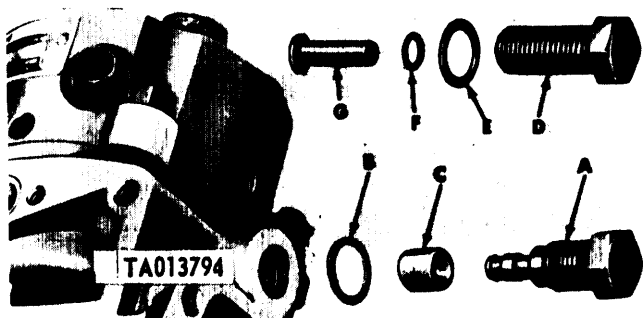

Figure 3-20. Removing oil filter or oil duct sealing screw assembly (code F and G pumps).
a. Refer to figure 3-20. Remove oil filter screw (A). Remove and discard filter screw copper gasket (B) and remove oil filter (C). Or remove screw (D),